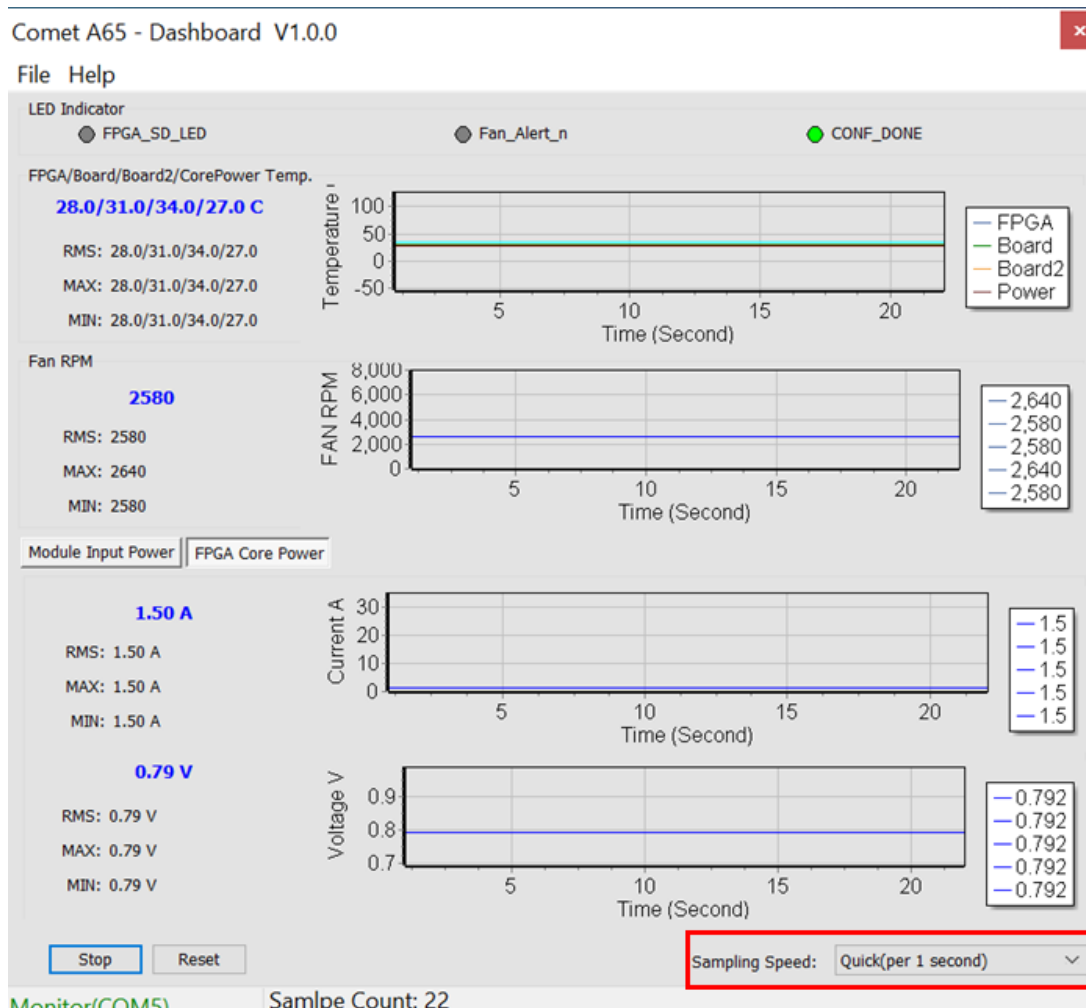
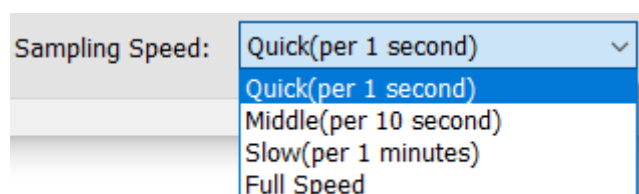

Figure 3-13 Sampling Speed section
Figure 3-14 Options of Sampling Speed
- **Sampling Speed:** It can change interval time that the Dashboard GUI sample the board status. Users can adjust it to 1s/10s/1min/Full Speed (0.1s) to sample the board status, as shown in **Figure 3-13** and **Figure 3-14**.